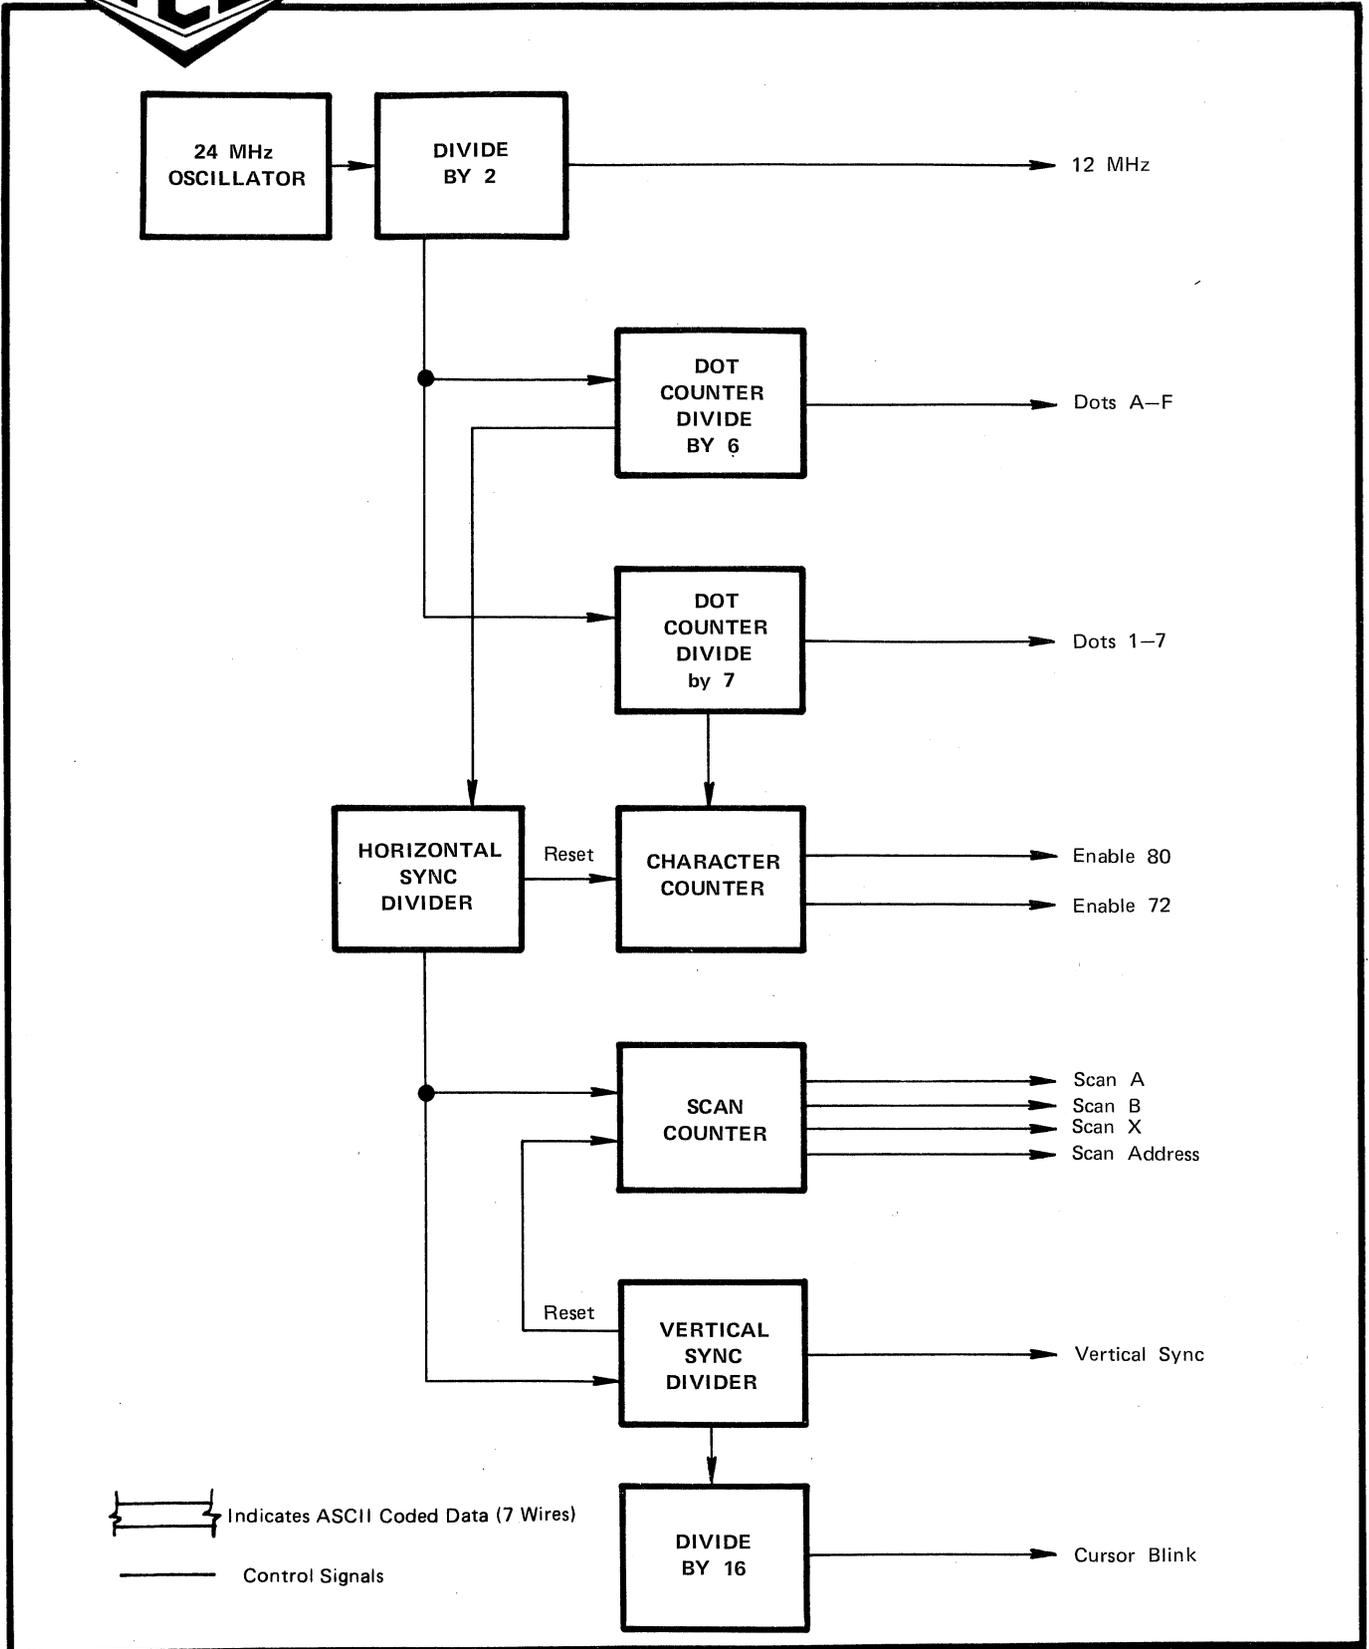

FIGURE 8 FUNCTIONAL DIAGRAM – TIMING GENERATOR
**TIMING GENERATOR – Board 1. See Functional Diagram, Figure 8.**